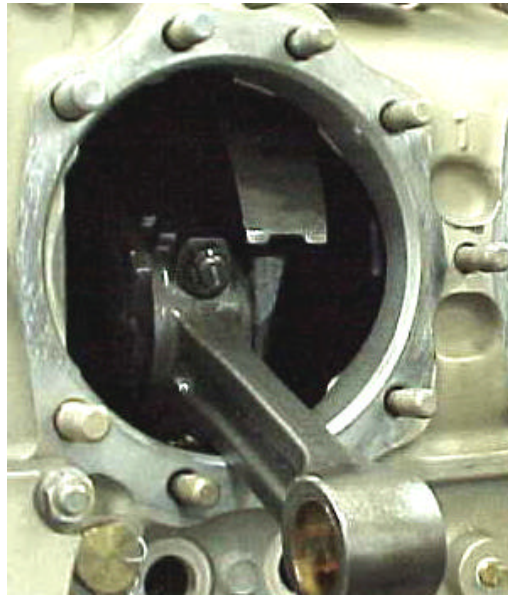

FIGURE 1
7. Position the connecting rod to be removed (number one, three or five) at or near top center. See Figure 1.